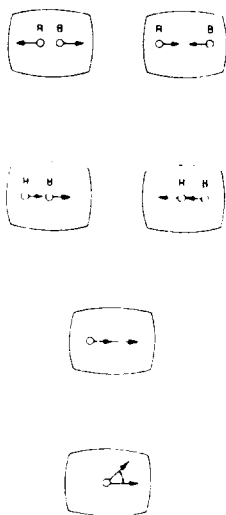

Figure 3
- (1) Set the CONTRAST control (VR292) to its minimum position (fully counterclockwise). If necessary, adjust the BRIGHTNESS control (VR291).
- (2) Adjust the two 4-pole magnets to converge red and blue vertical and horizontal lines at the center of the screen.
- (3) Adjust the two 6-pole magnets to converge the red and blue lines on green (Figure 3).